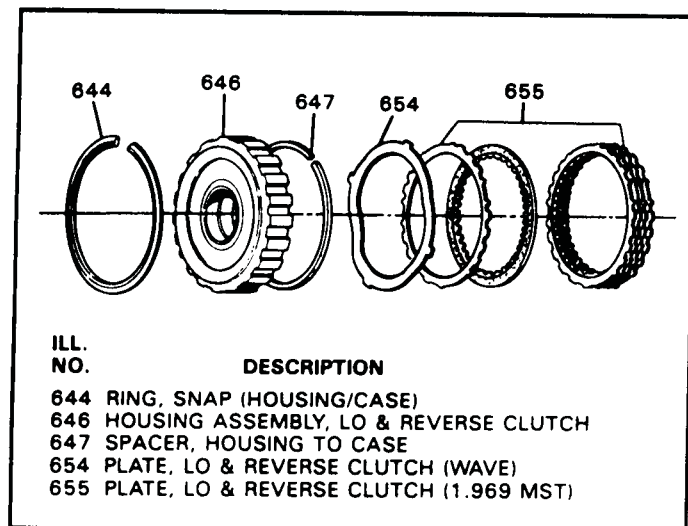

Figure 75
31. Install the cushion (Wave) plate on top of last steel plate as shown in Figure 75.
32. Install the case to housing spacer (647) into the case, as shown in Figure 75.